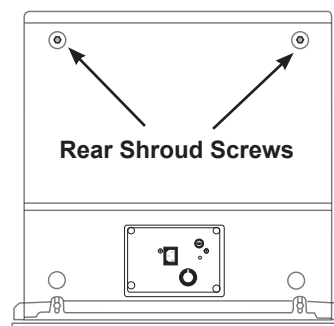

Figure 44.
1. Remove the (2) screws that secure the rear cover (Figure 44).